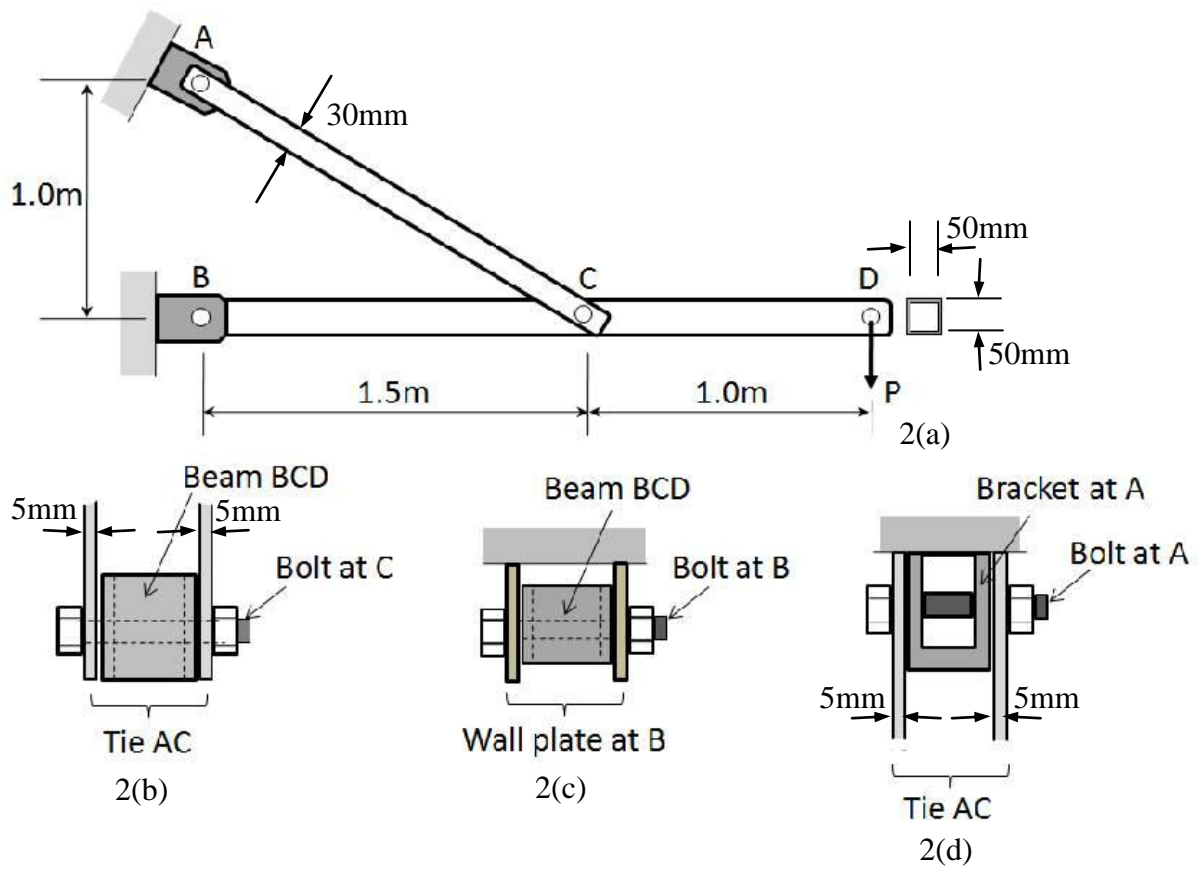

Figure 2
- (b) Figure 2(a) shows a rigid beam BCD suspended at point C by a pair of ties AC. The rigid beam is pinned supported at B and the ties AC are pinned supported at point A. Cross-section of the rigid beam BCD is a square tube section of 50mm×50mm with wall thickness of 4mm. Details of connection at C, B and A are shown in Figure 2(b), 2(c) and 2(d), respectively. Diameters of bolts at C, B and A are all 12.5mm. A load  $P=50\text{kN}$  acts at point D of the rigid beam BCD. Determine: